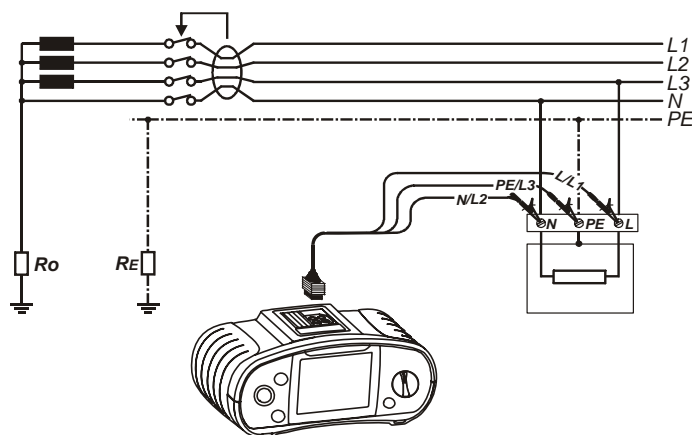

Figure 5.6: Line impedance measurement
- Connect** test leads to the tested object (see figure 5.6).